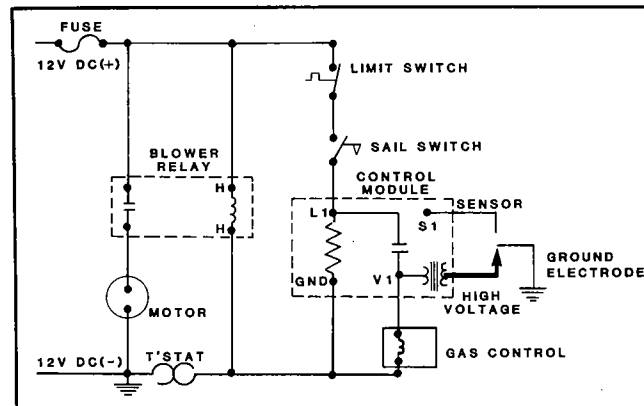

Figure 52. Circuit Schematic for DuoTherm Series 6100 Furnace
1. Check for voltage across terminals L1 and GND on control module (figure 52). If voltage is present, check if system has gone into a lockout by resetting thermostat. If no voltage is present, check for open sail switch or limit switch. Check wires and connections.